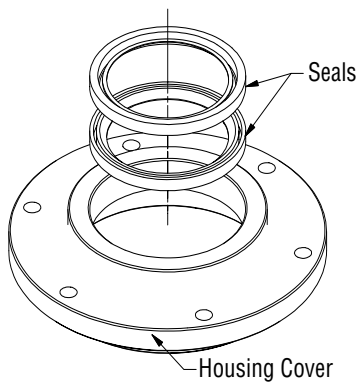

Figure 5-16, Pinion Shaft Seals
9. The oil seals may now be serviced. Note the orientation of the seals. (Figure 5-16)